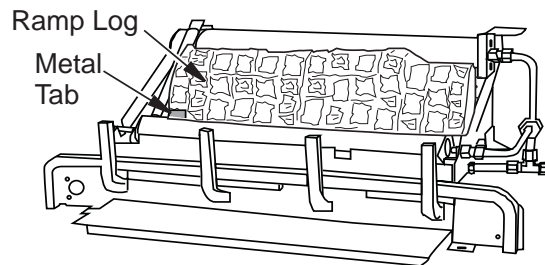

Figure 24 - Installing Fiber Ramp Log
2. Place fiber ramp log in center of chassis as shown in **Figure 24**, page. The fiber ramp log can be identified by the shape and much lighter weight when compared to the other logs. The log must sit flat on the black sheet metal and behind the left metal tab as shown. Make sure the side marked "BOTTOM" is setting down.